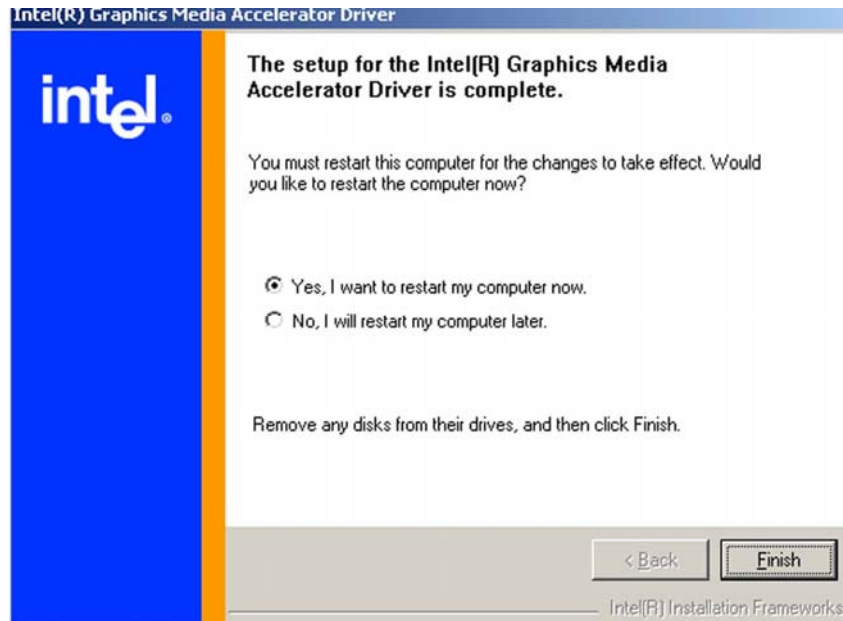

Figure 7-11: VGA Driver Installation Complete
Step 8: After the driver installation process is complete, a confirmation screen shown in **Figure 7-11** appears.
Step 9: The confirmation screen shown in **Figure 7-11** allows user to restart the computer immediately after the installation is complete or to restart the computer later. For the settings to take effect the computer must be restarted. Once decided when to restart the computer, click the “**FINISH**” button.